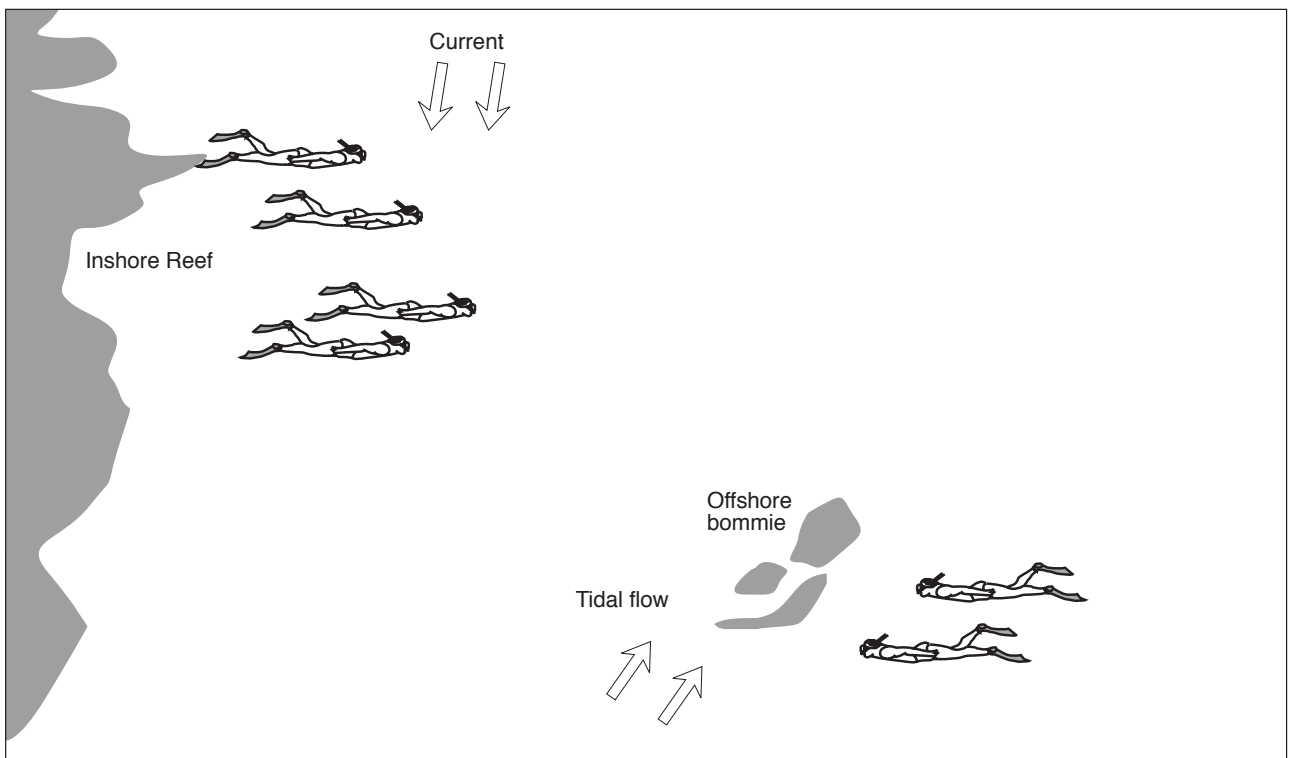

Figure 139.4 Skindive planning
5. Figure 139.4 shows two skin diving situations. Four skindivers are diving near an inshore reef and two skindivers are diving off an offshore bommie.